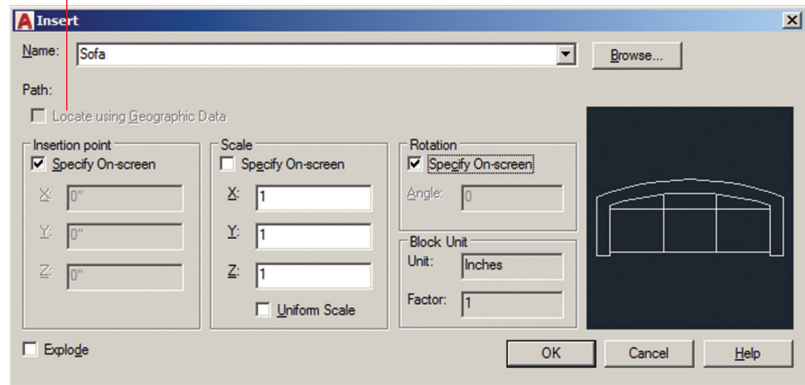

FIGURE 9.11 Examining the preview of the local block definition in the Insert dialog box
- Click the Insert tool in the Block panel. Open the Name drop-down and select `Sofa` in the list. The preview image in the upper right shows that the local block definition is based on the curved-back design (see Figure 9.11).